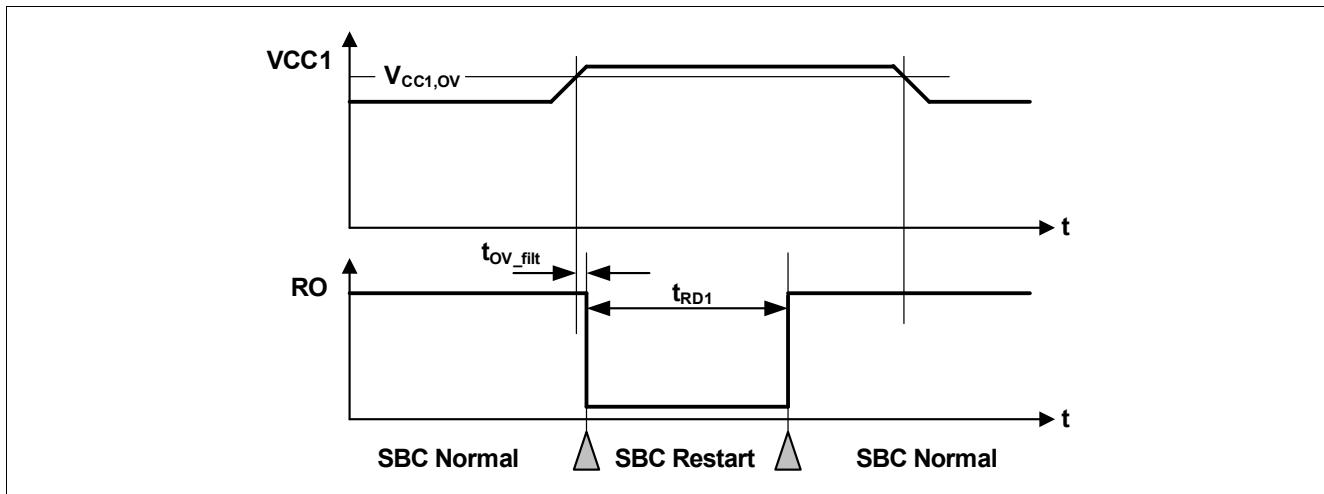

Figure 54 VCC1 Over Voltage Timing Diagram
- If the bit **VCC1\_OV\_RST** is set and **CFG\_P** = '1', then SBC Restart Mode is entered. The FOx outputs are activated. After the reset delay time ( $t_{RD1}$ ), the SBC Restart Mode is left and SBC Normal Mode is resumed even if the VCC1 over voltage event is still present (see also Figure 54). The **VCC1\_OV\_RST** bit is cleared automatically;